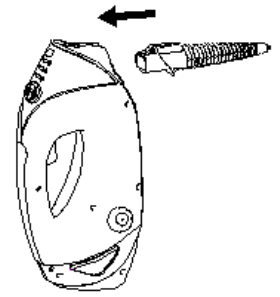

fig.12
- First attach the Direct Steam Nozzle onto the Hand Held Steam Cleaner until it clicks into place.(fig.12)